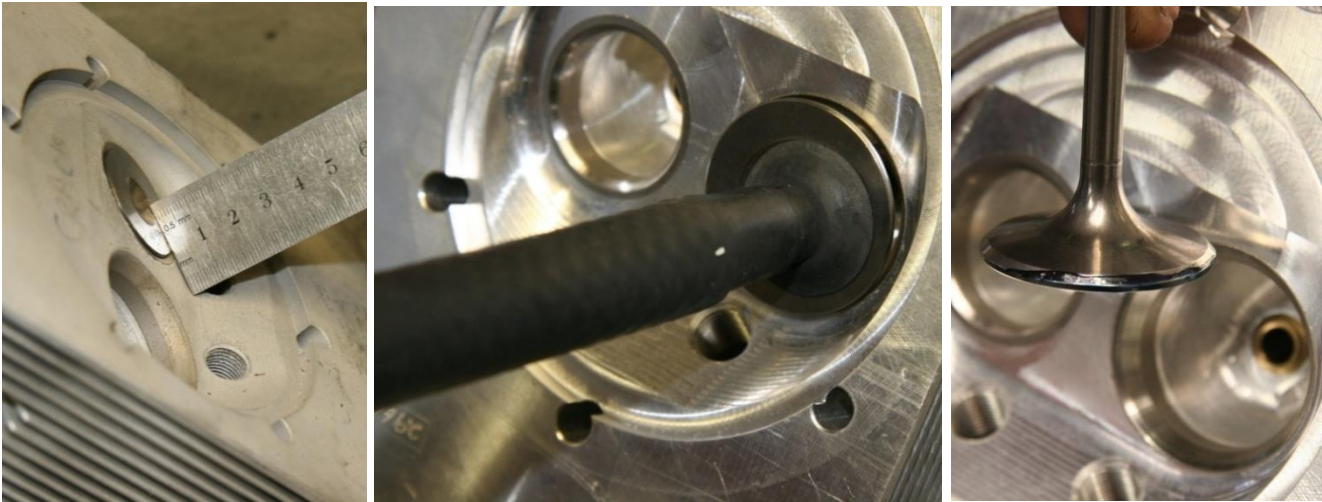

Figure 95 – Recessed Valve Seat, Valve Being Cut
- Figure 95 (left) shows a valve fitted to a recessed seat. This assembly is unserviceable. To avoid this, valve seats must be cut as lightly as possible.
- Figure 95 (2 right pictures, above) shows a valve / valve seat being cut using a hand grinder and valve lapping paste on the sealing face.